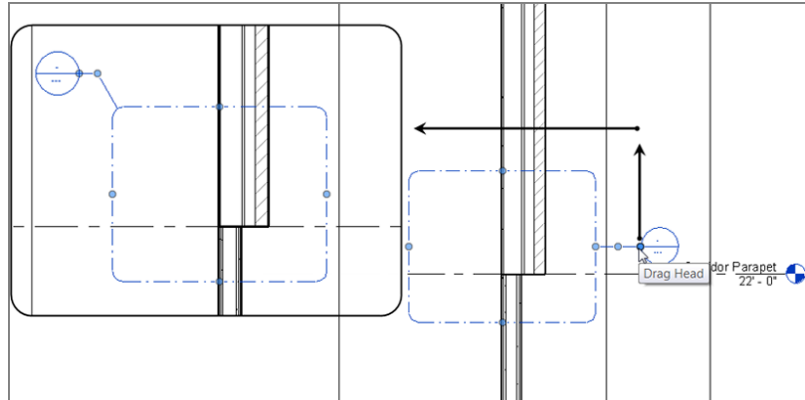

FIGURE 3.64: Adjusting callouts will be a common task.
8. Drag the bubble to the location shown in Figure 3.64.
9. Pick the blue midpoint grip on the leader and create an elbow, as shown in Figure 3.64.